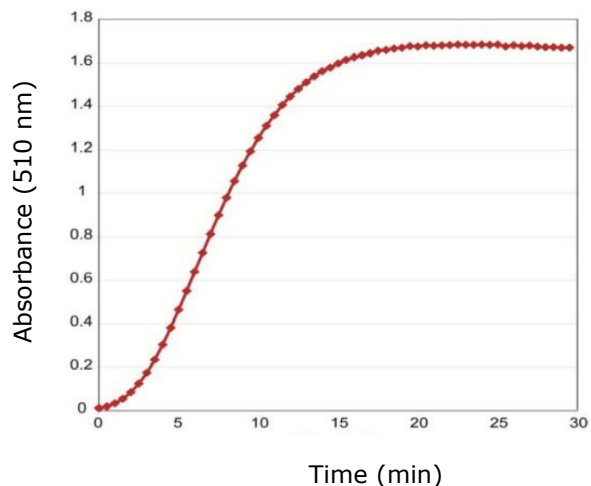
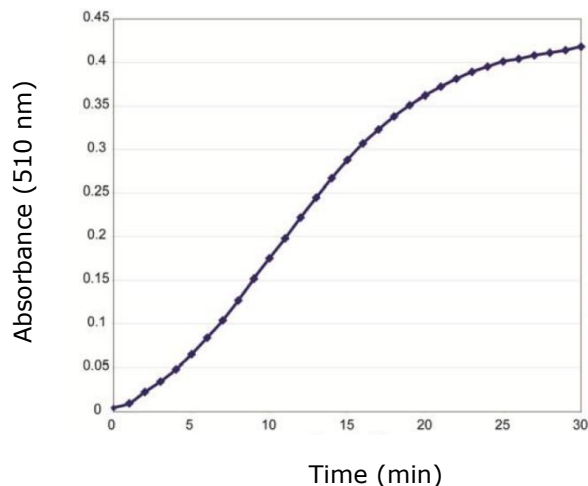

Figure 2. SAM510 Assay quantitatively assays the Positive Control: 50 μM Adenosylhomocysteine (AdoHcy).
Figure 3. Human lysine specific histone Methyltransferase SET7/9 assayed with 20 μM TAF-10 as the acceptor substrate.
- Either plot the absorbances against time to obtain the slope (rate) of the linear portion of the curve. See figure 2 for a plot with the AdoHcy positive control and figure 3 for an example using humane lysine specific histone Methyltransferase, SET7/9. Subtract the background control from your samples and positive control and then plot a curve of time (minutes) against absorbance. The rate of the enzyme activity can be characterized by the absorbance increase per minute.